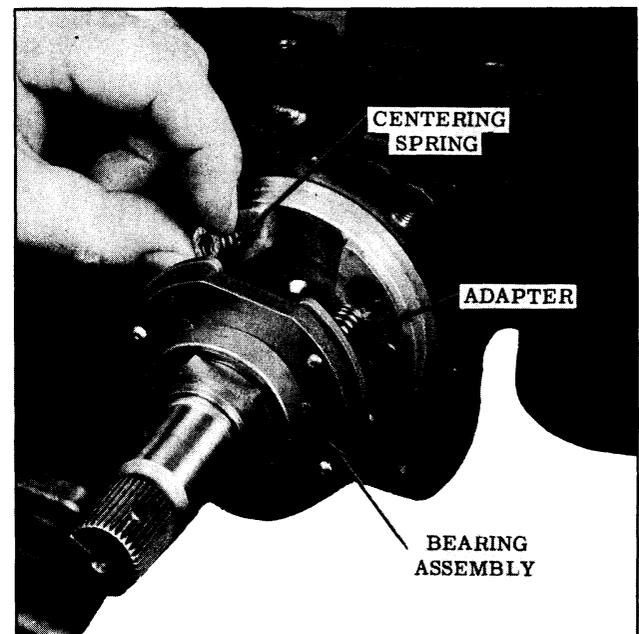

Fig. 5-62 Installing Centering Springs
5. Install the 4 centering springs into the shallow bores of the adapter. (See Fig. 5-62)